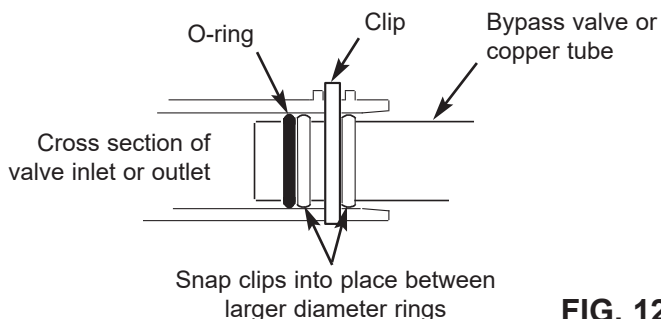

FIG. 12
- Snap the two large plastic clips in place on the inlet and outlet ports, from the top, down (See Figure 12). Be sure they snap into place. Pull on the bypass valve or copper tubes, to make sure they are held securely in place.